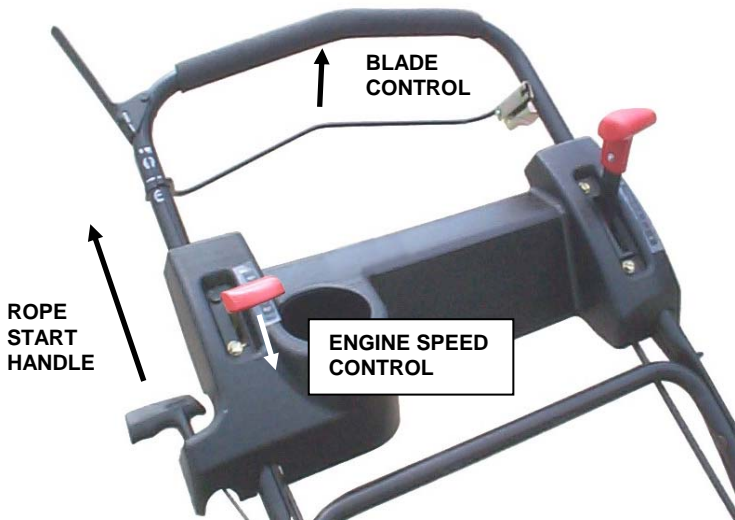

FIGURE 2.4
2. Move engine speed control past "Fast" detent to "Choke" position. See Figure 2.4 and "FAMILIARIZATION".